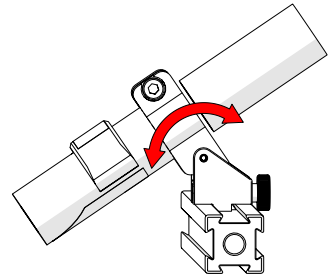

Fig. 174 - Aim guide
3. Adjust the guide's friction pivot to aim the guide as required (*Fig. 174*).